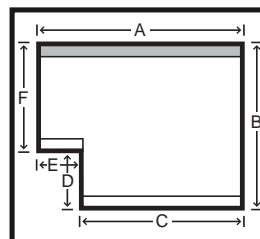

Figure 6 Edge Cut Out
- Edge cut out blinds (Figure 6) will have two bottom rails.